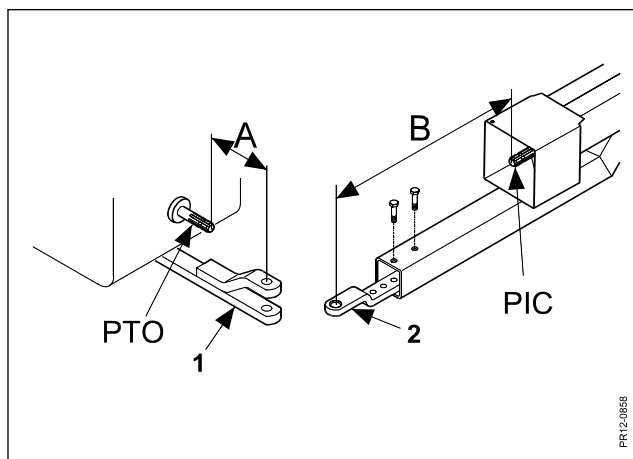

Fig. 2-11
Fig. 2-11 Adjust the drawbar (1) of the tractor so that the distance "A" is as short as possible. Adjust the drawbar (2) of the machine so that the distance "B" is as long as possible. In this way the wide angle absorbs most of the deviation when turning. The drawbar (2) of the machine must be placed so that the PTO shaft is as close to horizontal as possible.